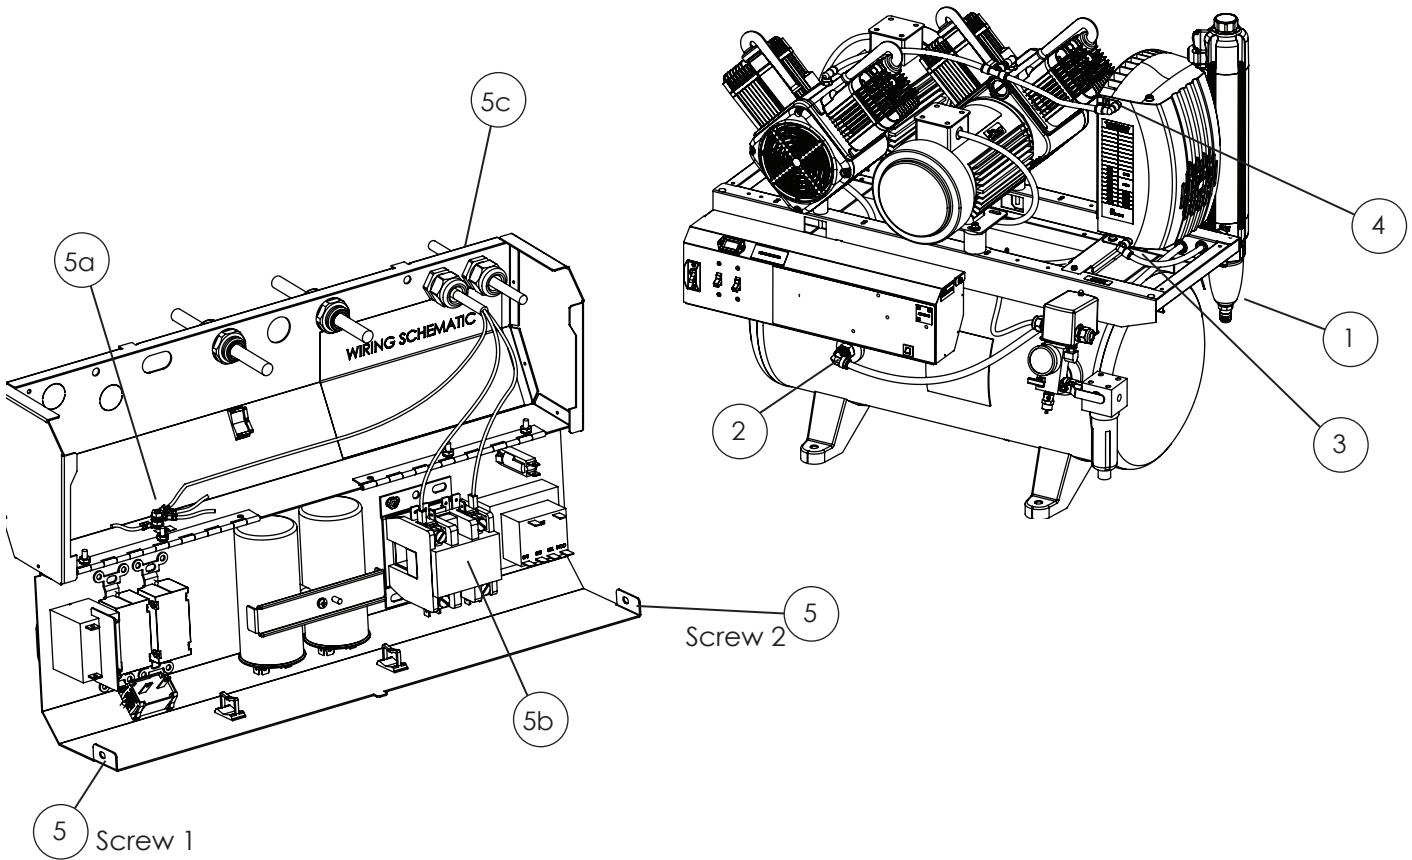

Figure 1. Cooler/Dryer Flamex Hose, Power and Wire Harness Connection Locations
Step 7: Install the Cooler/Dryer Assembly (See Figures 1 and 2)